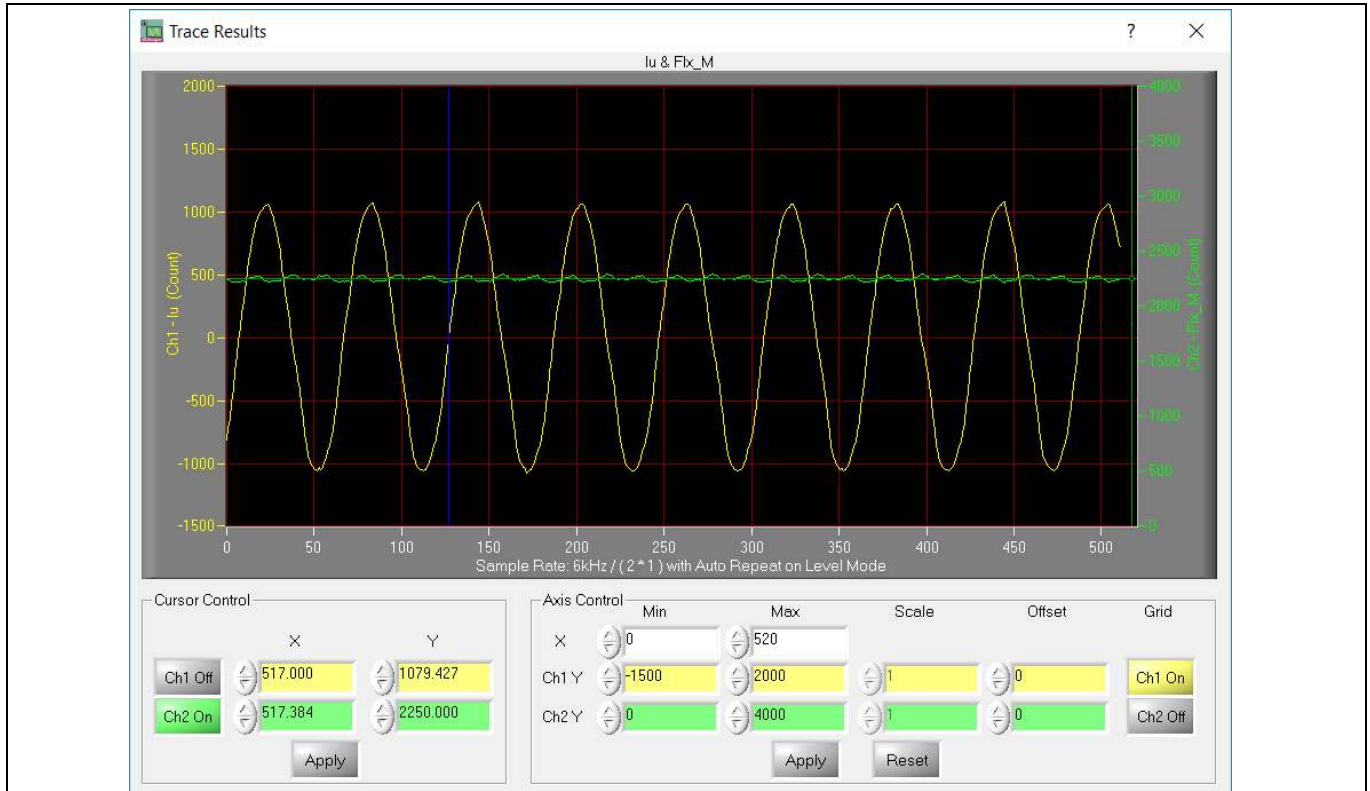

Figure 10 Trace waveform for lu & Flx-M at 50% speed
13. Set target speed to about 50% of MAX speed, start “lu & Flx_M” trace with “Auto Repeat On Level,” see Figure 10. Flx_M is better within the range of 2000~2500 (rated value is 2048), and MUST be steady and DC-like.